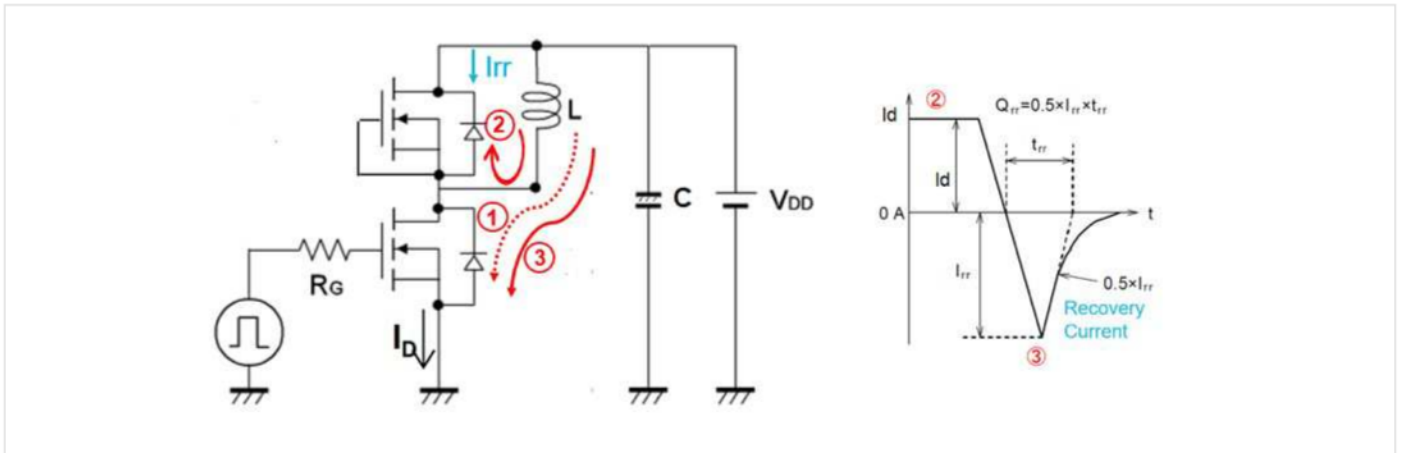

Figure 20: Diode reverse recovery.
Reverse recovery current occurs during the turn-on of the second pulse. As shown in **Figure 20**, the diode is conducting in a forward condition during phase 2. As the low side MOSFET turns on again, the diode should immediately switch to a reverse blocking condition; however, the diode will conduct in a reverse condition for a short period of time, which is known as the reverse recovery current. This reverse recovery current is translated into energy losses, which directly impact the efficiency of the power converter.
**Figure 20** also shows how reverse recovery parameters are retrieved below.